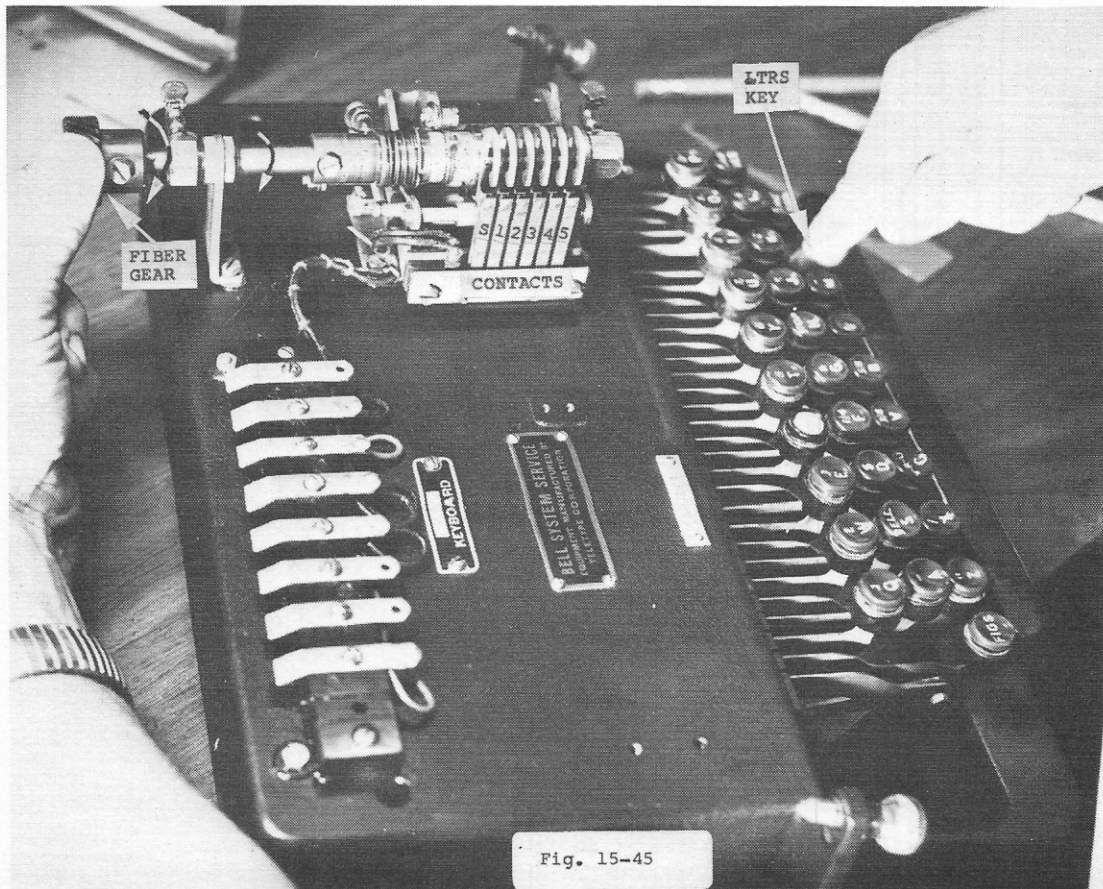

Fig. 15-45
2. As shown in Fig. 15-45, turn the fiber gear over and forward to yourself. Give it a spin to make sure the transmitting cam is properly latched.
3. Press LTRS key, then turn the fiber gear slightly up, over, and towards you until the start-stop contact opens. This is the first contact on the left of the row of six contacts. When this is done, all six contacts will be open, ready for inspection and gauging (See Fig. 15-45).